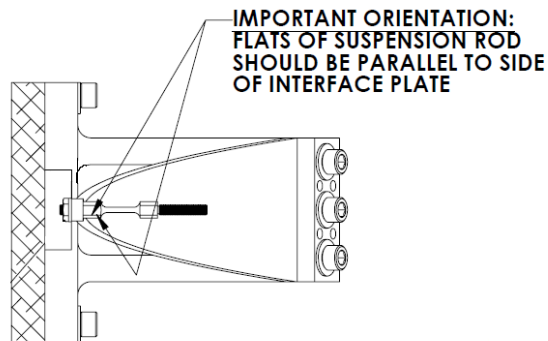

Figure 10: Suspension Rod
- i. (2) C-2016-NA (1/4-20 x 1 SHCS Ag) upper placement
- ii. (2) C-2012-NA (1/4-20 x 3/4 SHCS Ag) lower placement
- iii. (2) 92200A246 (10-24 x 7/8 SHCS)
16. Attach D1200781 - SLC ACB SUSPENSION ROD to tip of SUSPENSION BLADE. Short threaded end into blade tip. Orient the flat of rod so that a wrench can hold the flat from the blade tip direction, see Figure 10.